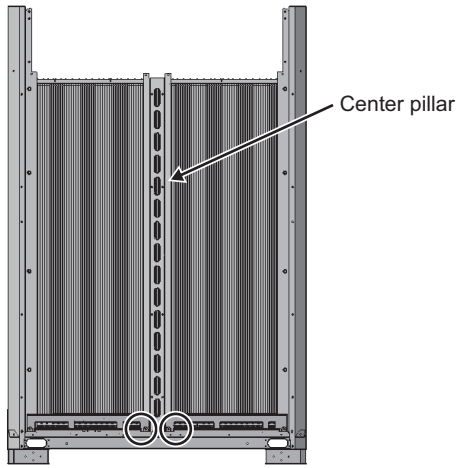

Fig. 103 Rear
(3) Remove the center pillar. (Two screws: Fig. 103)